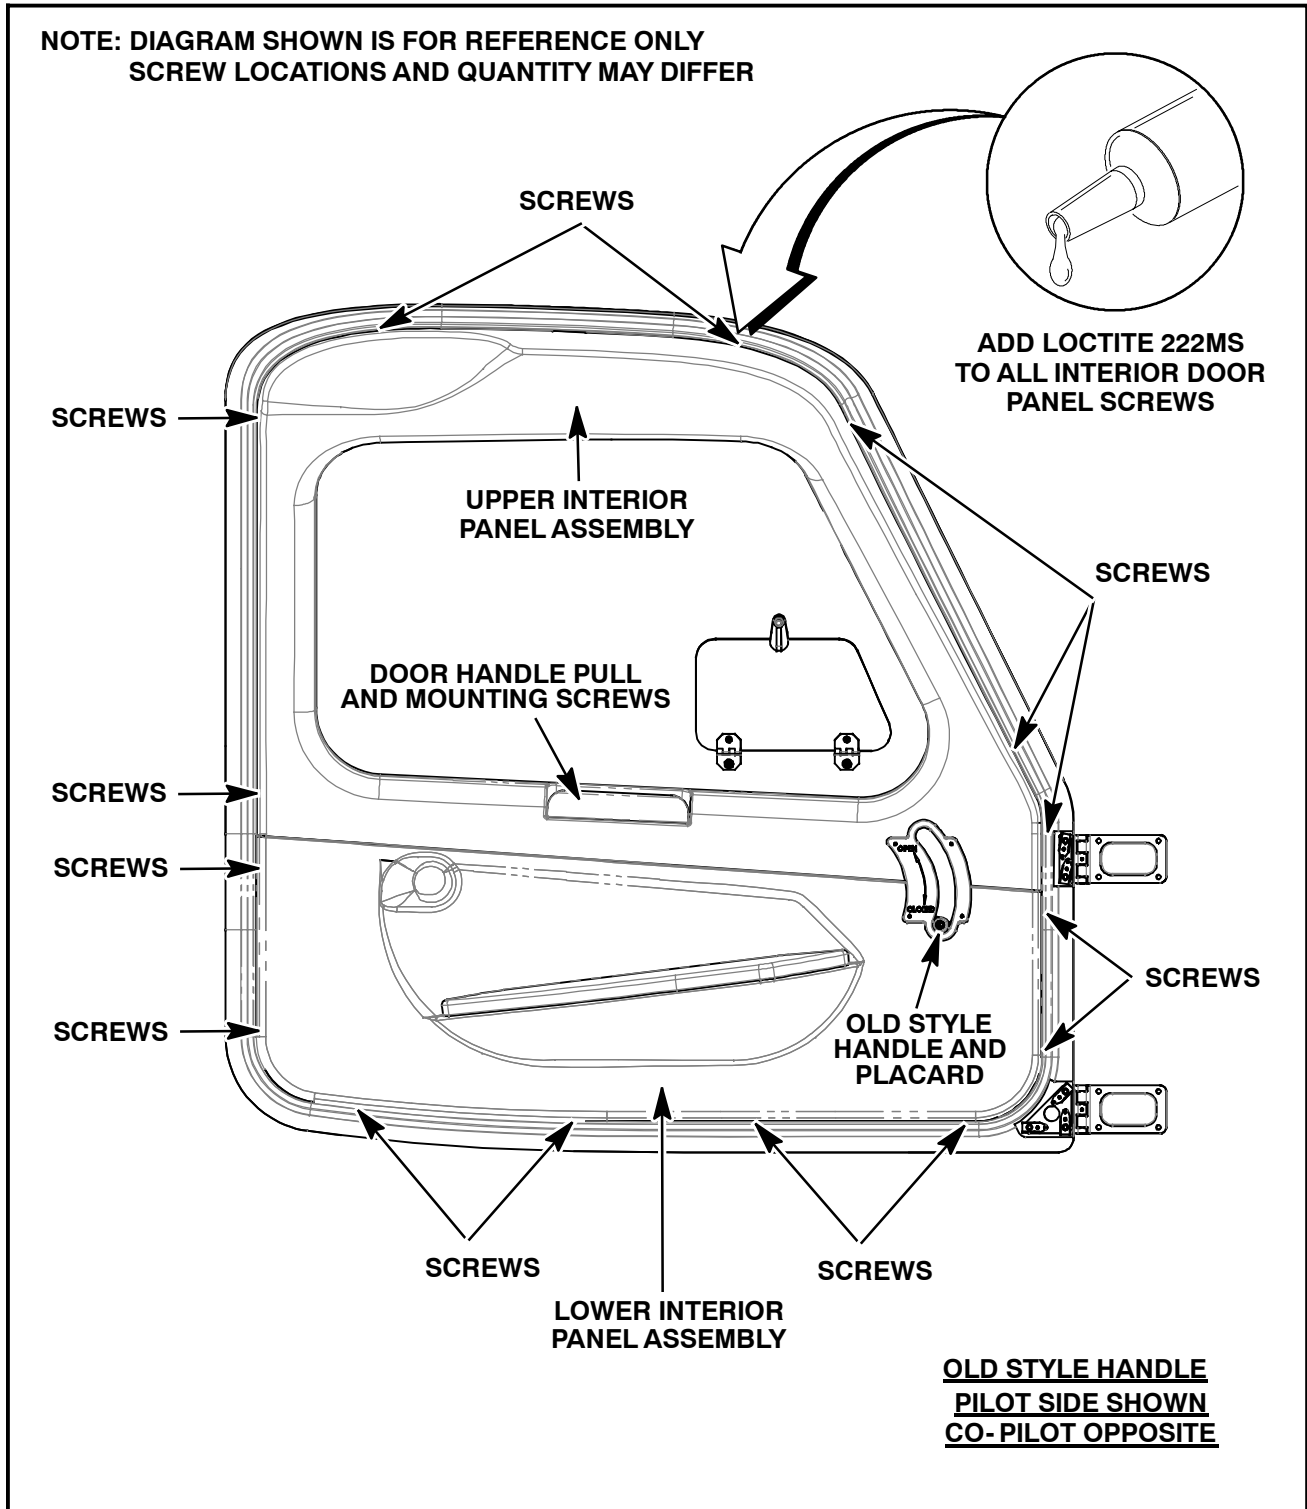

Figure SIM20-130-1 - EXISTING INTERIOR DOOR PANEL AND HANDLE ASSEMBLY
- 1.2. Open Pilot and Co-Pilot doors, remove interior door handle placard screws, and remove placard as shown in Figure SIM20-130-1.
- 1.3. Remove door handle pull screws and remove upper and lower interior door panel screws, keep for reassembly, remove panels from door as shown in Figure SIM20-130-1.
- 1.12. Install Upper and Lower interior door panels, use loctite 222MS on screws and secure panels as shown in Figure SIM20-130-1.
- 2.4. Once door panels are returned from Mooney, test fit door panels, and install 130400-65 Trim Ring with RAS13270 adhesive in center of hole cutout. Install Upper and Lower interior door panels, use loctite 222MS on screws and secure panels as shown in Figure SIM20-130-1.